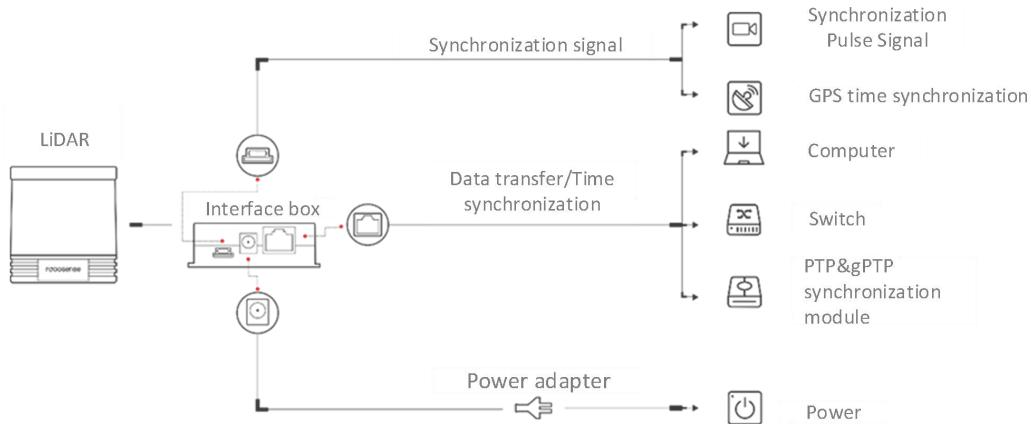

Figure 13 Interface Box Connection Diagram
The connection method is shown in Figure 13 .
- 1) The time synchronization module (PTP & gPTP, GPS time synchronization module) is not included as a standard product. If you need to use these features, please purchase them separately and follow the connection method shown in Figure 13 .